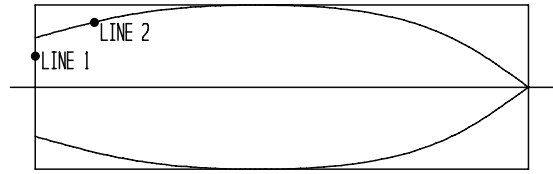

FIG. 3
Step 6. Select the hull spline, Line 2, **Fig. 3**, with a click and press ENTER.
Step 9. To indicate position on the plane, click the stern line (back) of the boat, Line 1, **Fig. 3**.